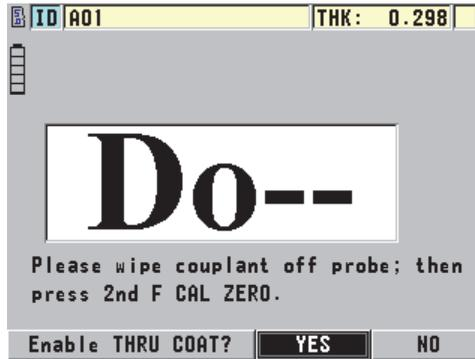

Figure 6-6 Opening the THRU-COAT setup dialog box
4. Press [**2nd F**], [**CAL ZERO**] (**Do ZERO**) (see Figure 6-6 on page 75).